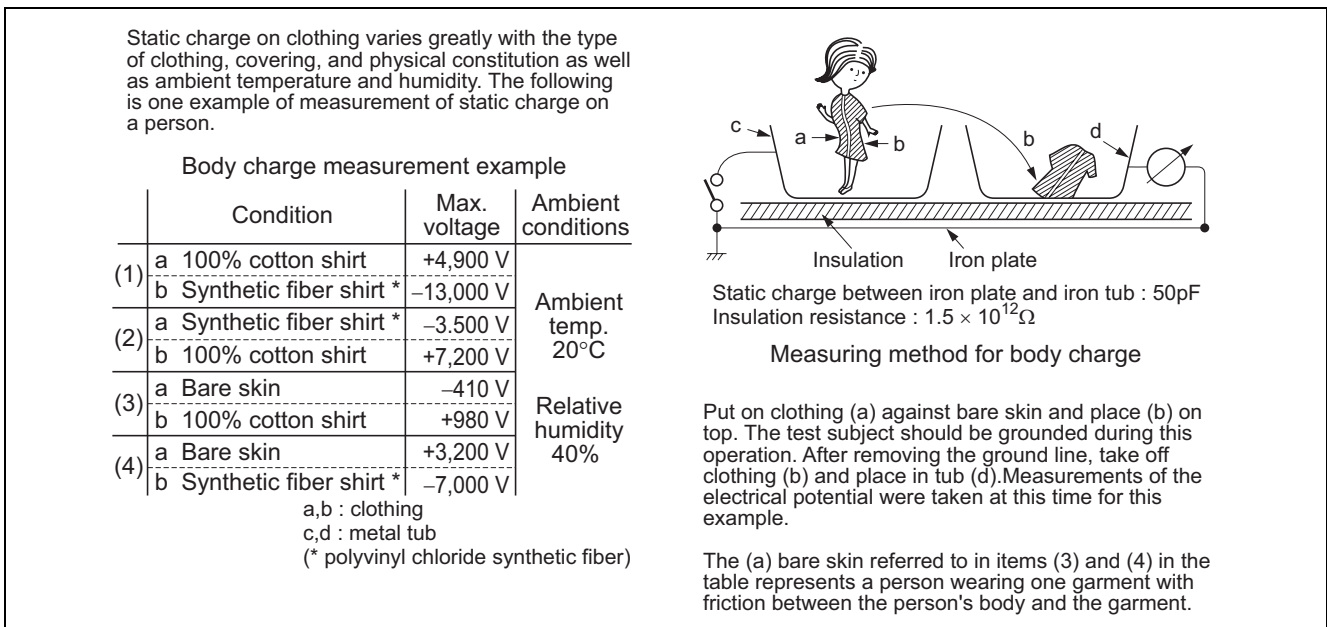

Figure 8 Example of Measuring Static Charge on a Person
(1) Persons handling semiconductor devices should be grounded via a high resistance to discharge any static electricity that may be adhering to their clothing. The resistance value should be around 1 MΩ and no other person should come between the person being discharged and ground (GND). See figure 8 for static electricity data for human bodies. Since the product shown in Table 6 is susceptible to destruction by static charge. Be specially aware, therefore, of electrical charge on persons and on equipment in the vicinity.